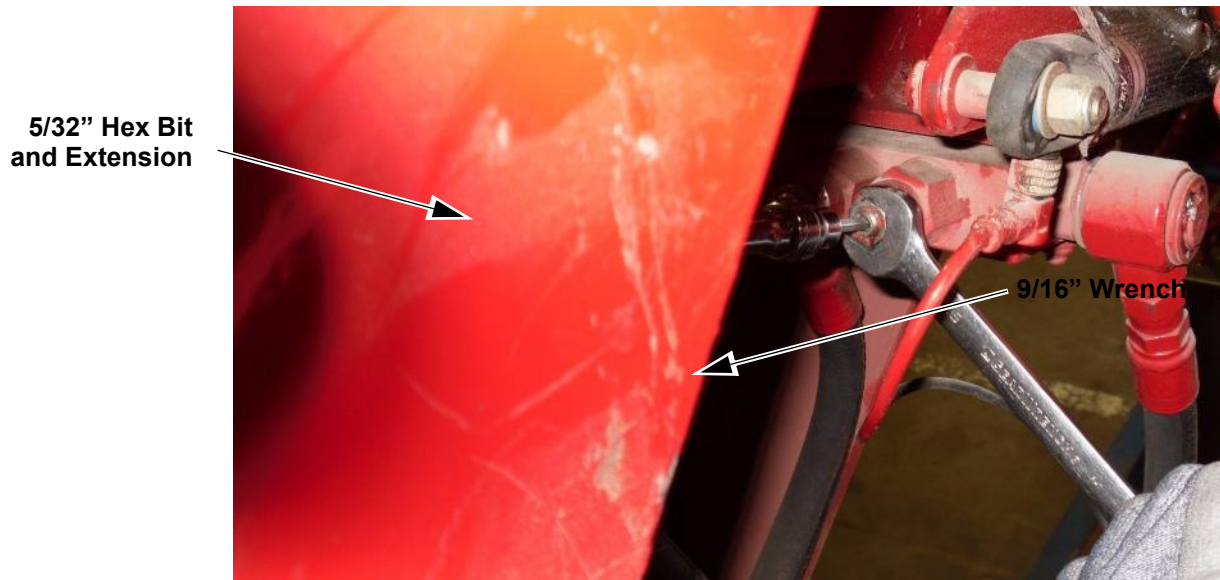

Figure 7: Loosening the Lock Nut on the Counterbalance Valve
9. Install the 24" extension and 5/32" hex bit in the ratchet. Insert the tool between the left and middle ribs on the tie bar and insert the bit into the counterbalance valve stem on the right-hand side of the 2-valve manifold (located under the upper pin of the horizontal cylinder) (see Figure 7).
10. Use a 9/16" wrench to loosen the lock nut on the valve stem. Use the ratchet to prevent the valve stem from turning while the lock nut is loosened (see Figure 7). Loosen the lock nut 2–3 turns counterclockwise.
1. Loosen the lock nut on the horizontal retract valve stem (to the right of the counterbalance valve when looking from the back; see Figure 7 on page 8).
4. Loosen the lock nut on the horizontal extend valve stem (to the left of the counterbalance valve when looking from the back; see Figure 7 on page 8).